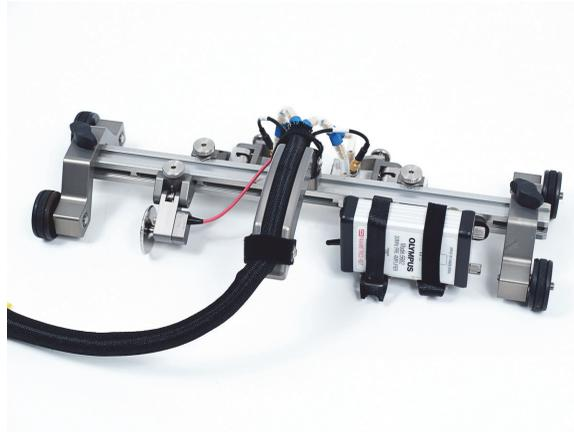

Figure 1-23 Preamplifier installed
6. Install the preamplifier in the bracket, and then secure the preamplifier using the hook and loop strips (see Figure 1-23 on page 26).